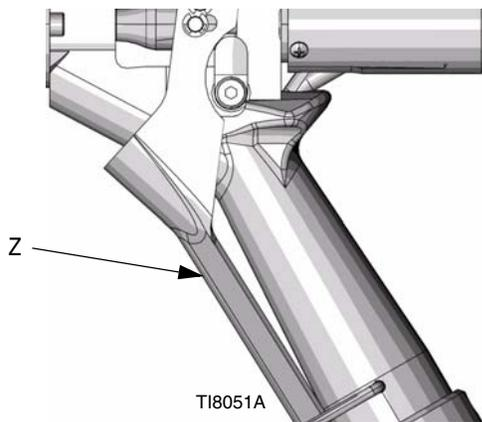

**FIG. 21: Bleed Stem**
4. Place a waste container under the bleed stem (Z). Using an adjustable wrench, open the bleed stem counterclockwise 1/3 -1/2 turn. See FIG. 21.
6. With waste container in place, slowly open the air motor valve (D).
7. Make sure the pump begins to cycle and heated material flows from the bleed stem (Z) after several cycles of the pump.
8. If the pump does not cycle, close the pump bleed-type master air valve (D), adjust the air motor air regulator (C) up by 5 psi (34 kPa, 0.3 bar). Never adjust the regulator by more than 5 psi (34 kPa, 0.3 bar) increments.
9. Prime the pump until it moves smoothly in both directions with no air popping or erratic movement and close the pump bleed-type master air valve (D).
10. Close the bleed stem (Z). See FIG. 21.